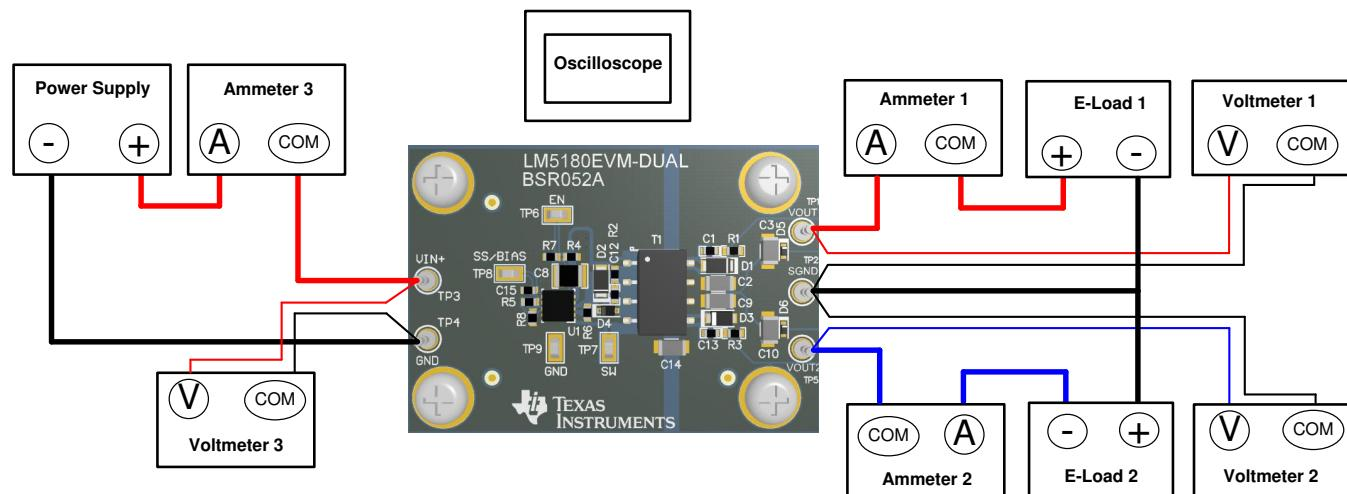

Figure 3. EVM Test Setup
Referencing the EVM connections described in Table 3, the recommended test setup to evaluate the LM5180EVM-DUAL is shown in Figure 3. Working at an ESD-protected workstation, make sure that any wrist straps, boot straps, or mats are connected and referencing the user to earth ground before power is applied to the EVM.
- Prior to connecting the DC input source, set the current limit of the input supply to 100 mA maximum. Ensure the input source is initially set to 0 V and connected to the V_{IN+} and V_{IN-} connection points as shown in Figure 3. An additional input bulk capacitor is recommended to provide damping if long input lines are used.
- Connect electronic loads to V_{OUT1} , V_{OUT2} , and SGND connections as shown in Figure 3. Set the load to constant-resistance mode or constant-current mode at 0 A before applying input voltage.